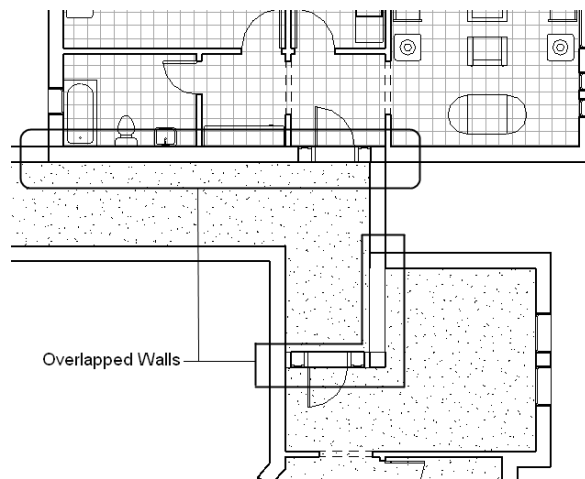
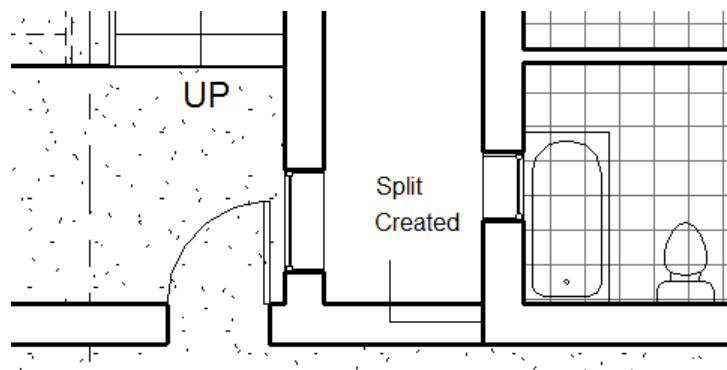

Figure 16-72 The overlapping walls
Figure 16-73 The split created to separate the walls
- b. Group the projects and use the modifying tools to create the *Apartment Cluster* project, refer to Figure 16-73.
16. Choose the **Modify** button from the **Select** panel and zoom in the area that shows the overlapping walls, refer to Figure 16-72. Next, select the wall of the *Elevator and Stair Lobby* project that overlaps with the wall of the *Apartment 1* project and use the drag control to stretch the walls to their intersection. Similarly, select the other wall of the *Elevator and Stair Lobby* project that intersects with the wall of *Apartment 2* project and use the drag control to stretch it to the intersection point. Use the **Split Element** tool to create a split in the wall that is common to the *Elevator and Stair Lobby* project and the *Apartment 1* project, as shown in Figure 16-73.